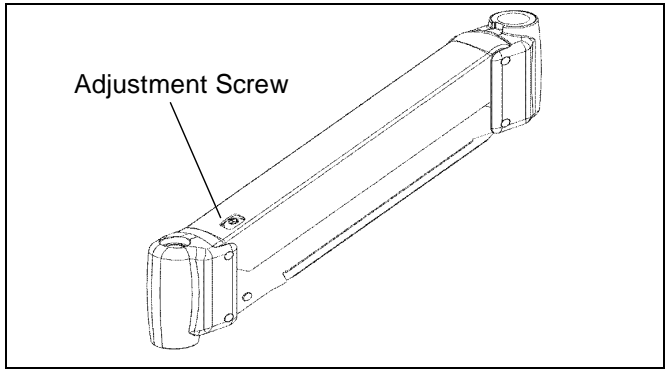

Figure 13
1. Using 5/32" hex key, slightly loosen or tighten the adjustment screw as necessary (See Figure 13).